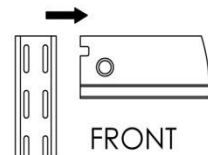

FIG. B-2
Hanging Hang Rails: (Fig. B-2, B-3 and B-4). Note: When installing hang rails, work from left to right or right to left and always installing one hang rail at a time.
12. (Fig. B-2 and B-3) Slide each hang rail assembly onto front lip of the top track. Position each hang rail at opposite ends of the track 1/8" (.125") in from each end.